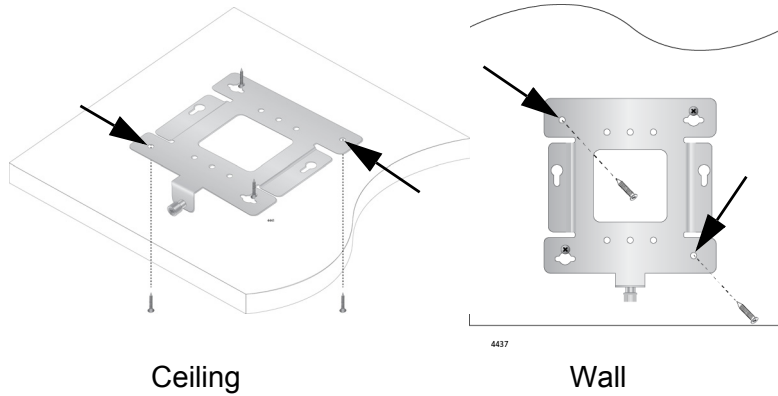

Figure 10. Pre-Drilling Holes on Mounting Bracket
- Secure the physical position of the mounting bracket by pre-drilling holes through the two existing open bracket mounting holes in the opposite corners from the key-hole slots. Refer to the arrows in Figure 10.